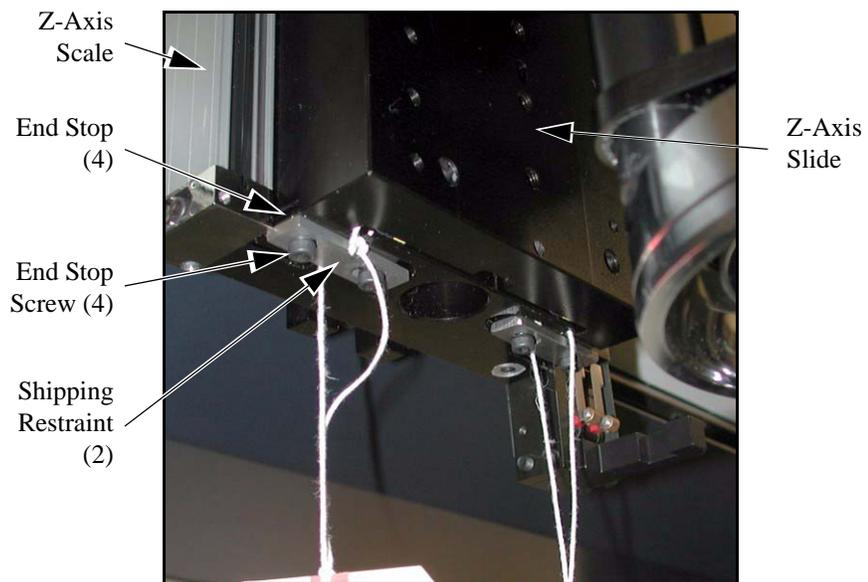

Figure 4-6 Removing the Z-Axis Shipping Restraints
6. Locate the Z-axis shipping restraints attached to the bottom of the Z-axis slide (see Figure 4-6).
9. Use a 3 mm Allen wrench and the end stop screws removed in Step 7 to re-install the four end stops. Make sure the end stop on the left side of the Z-axis slide (shown in Figure 4-6) does not interfere with the Z-axis scale.